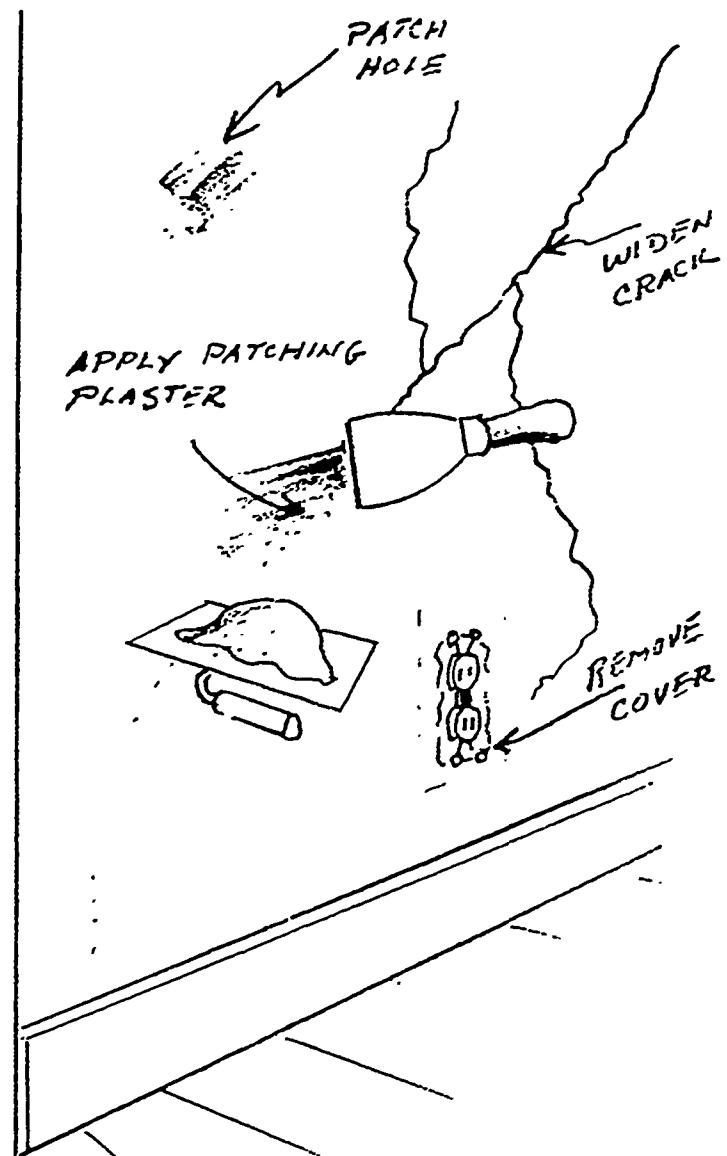

FIG. 408
4. Seal all cracks and joints with patching plaster. See Figure 408.